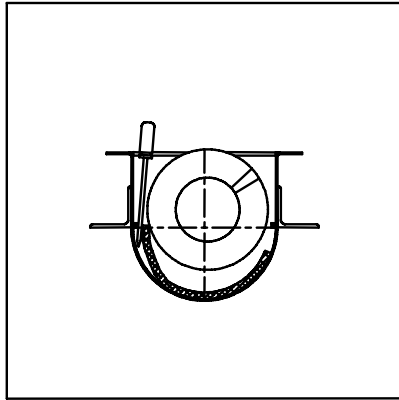

Figure 5.2c - Levering Out the Liner
4. Insert a heavy duty screw driver or lever down between the trough and the plastic liner so that it releases from its steel block retainers (see Fig 5.2c).